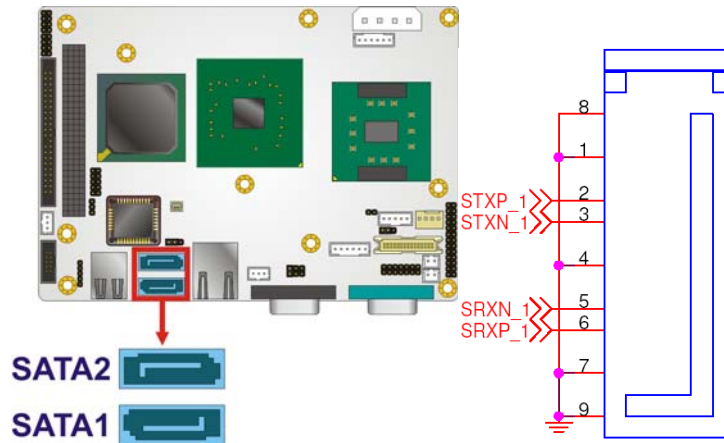

Figure 4-19: SATA Drive Connector Locations
- CN Location:** See **Figure 4-19**